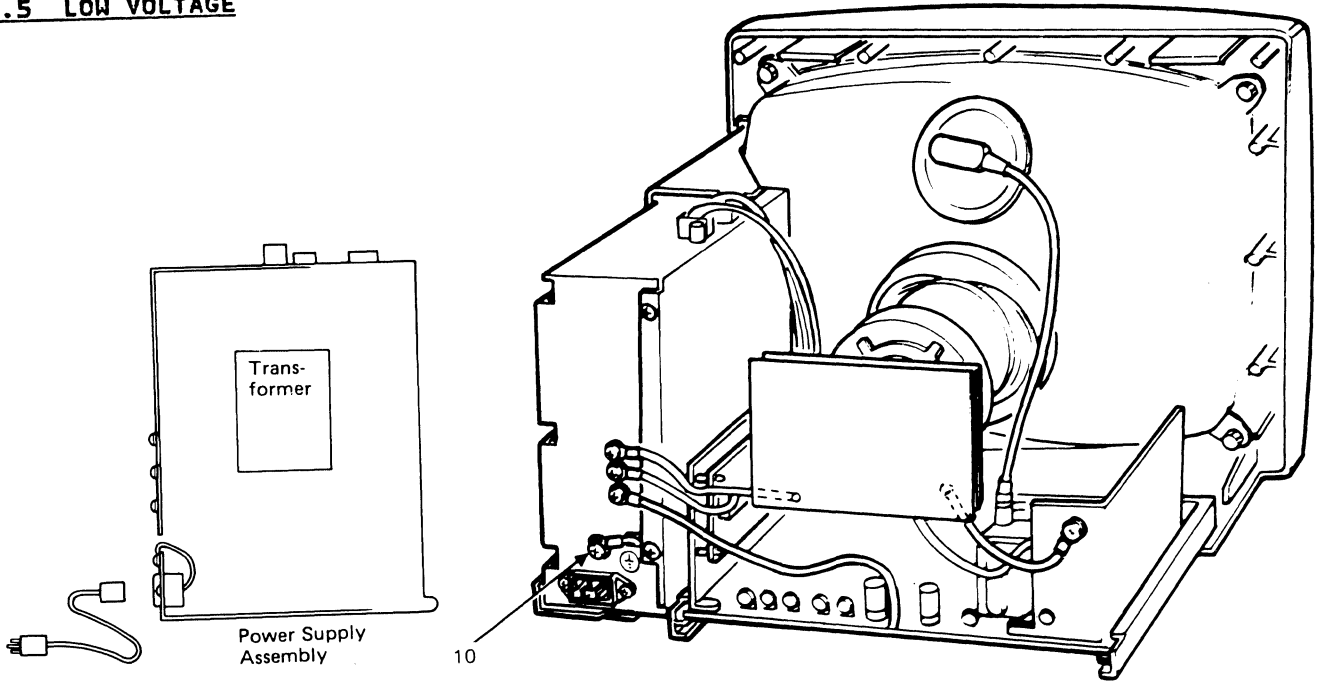
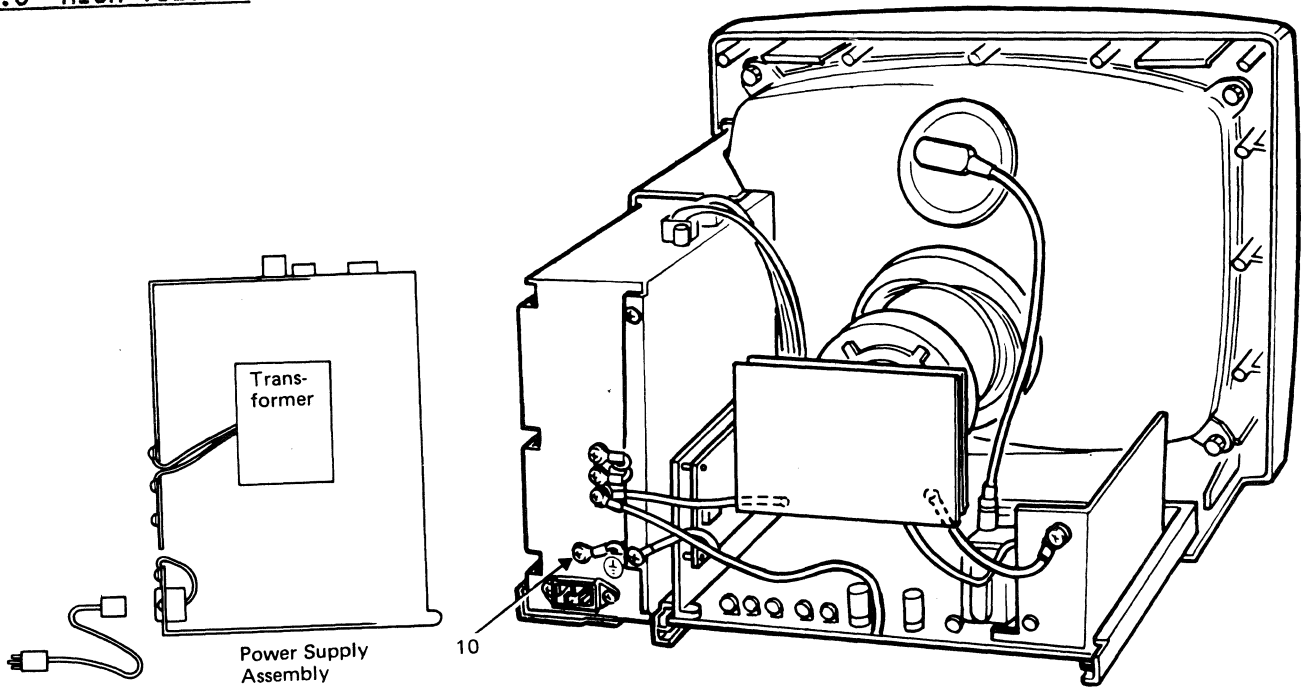

Figure 5-2. Grounding Pass Schematics
Figure 5-3. Grounding Pass Schematics
- _____ Ensure that the screw <10> is installed for proper grounding. (See Figure 5-2 on page 5-5, Figure 5-3 on page 5-5)